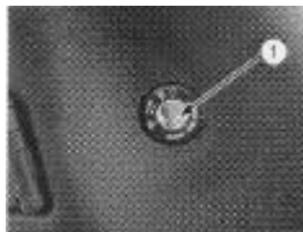

Fig. 7
IGNITION SWITCH (FIG. 7)
1. Set the ignition switch to "  " (FIG. 7). The lights on the dashboard come on for a second as the test check is run. The message CODE appears on the LCD display.
1. Release the electronic throttle, stop the scooter by pulling on the brakes, set the ignition switch to "  " (FIG. 7) and remove the electronic security key. This causes the power supply to be cut off and the scooter disabled, with the anti-theft device being re-enabled.